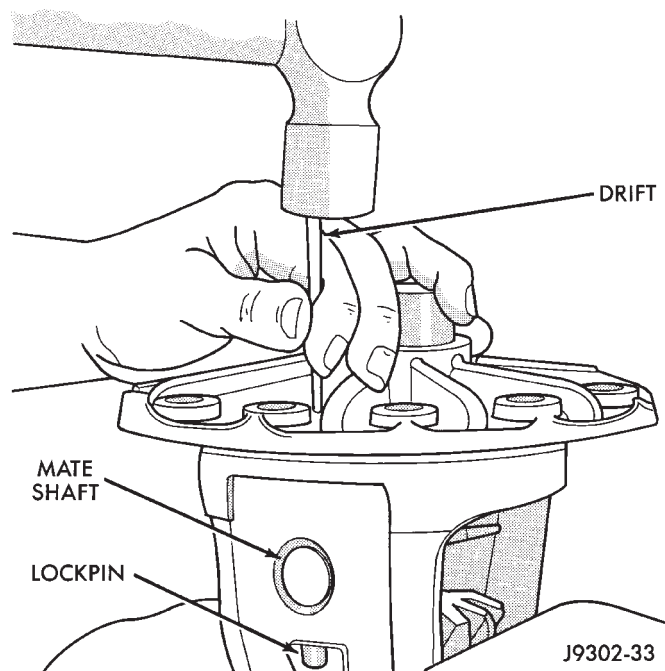

Fig. 34 Mate Shaft Lock Pin Removal
(4) Use a drift to remove the pinion gear mate shaft lock pin (Fig. 34).